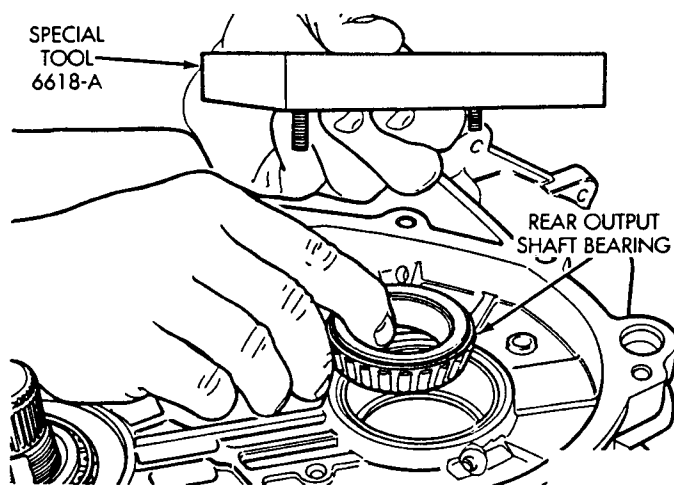

Fig. 2 Bearing Installation
(2) Install rear output shaft bearing cone and special tool 6618A (Fig. 2).